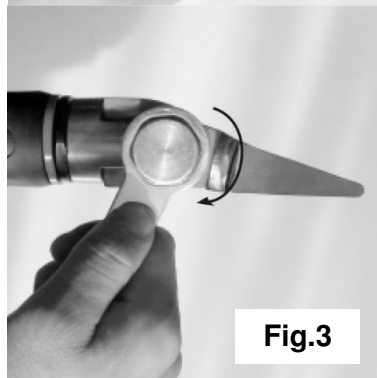

Fig.3
- 1.4. Re-position the hex screw and tighten with wrench. (Fig.3)